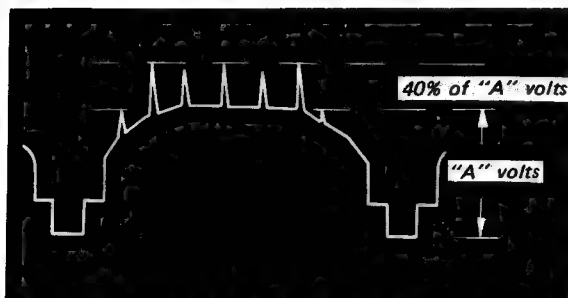

Fig. 5-5 White clip
20. Adjust R127 (white clip) so that the extreme white peaks of the waveform are clipped at 40% of "A" volts as shown in Fig. 5-5.